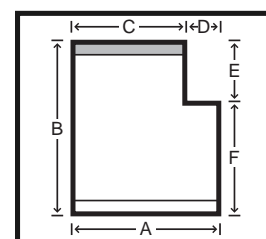

Figure 7 Head Rail Cut Out
- Head rail cut out blinds (Figure 7) are controlled on the opposite side of cut out. Inside mount blinds will raise to the widest width. Outside mount blinds will raise to the head rail.